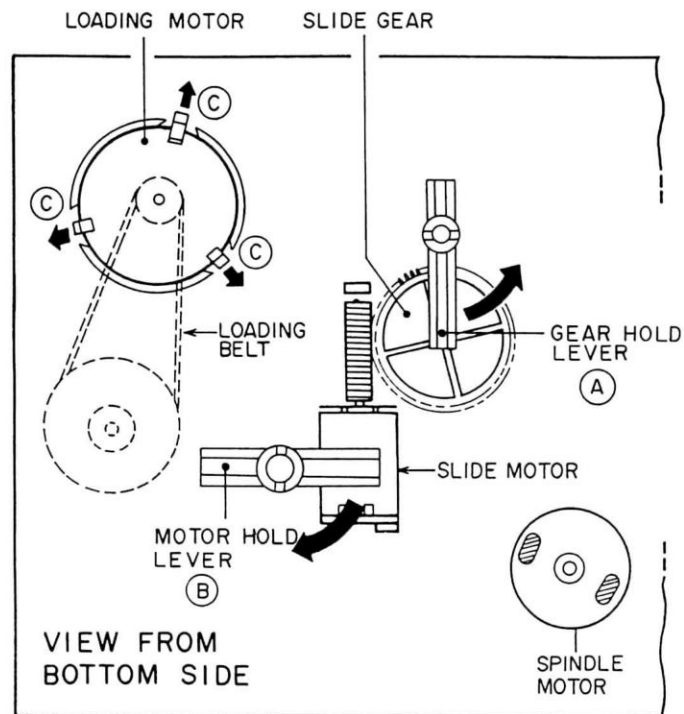
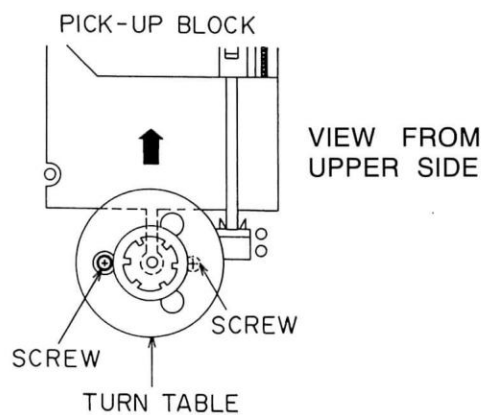

Fig. 4-4
Fig. 4.5
(Refer to Fig. 4-4 and Fig. 4-5)
- 1) Turn the GEAR HOLD LEVER ① counter-clockwise, then pull out the SLIDE GEAR (Fig. 4-4).
- 2) Move the PICK-UP BLOCK to opposite direction from the SPINDLE MOTOR (← direction). (Fig. 4-5)
- 3) Remove two fixation screws of the SPINDLE MOTOR through the hole on the TURNTABLE as shown Fig. 4-5.
(Refer to Fig. 4-5)
(Refer to Fig. 4-4)